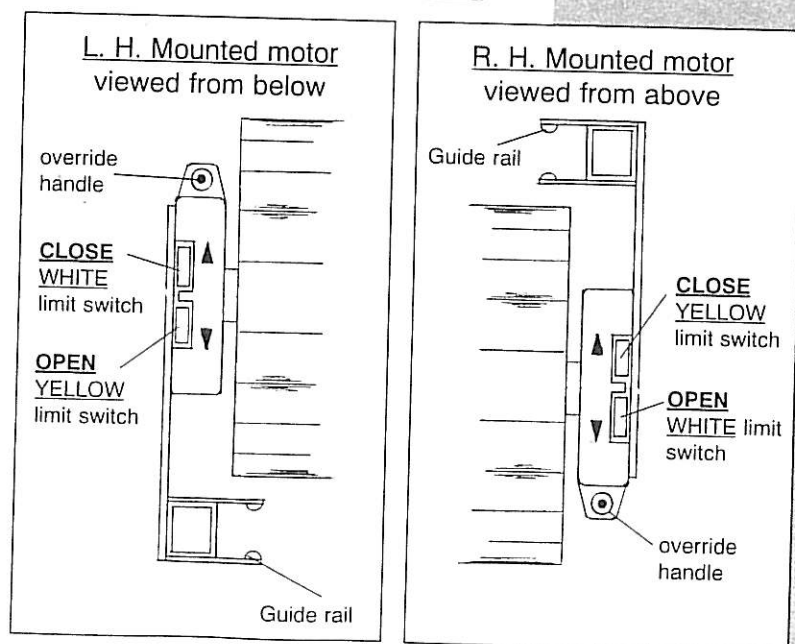

Fig 25
- 9.1.2 Remove the protective cap from the head of the motor. (see Fig 25)
- 9.1.3 Fully depress both limit switch buttons. (see Fig 25). They will automatically lock in the down position.
- 9.1.5 Identify the OPEN limit switch button on the motor (see Fig 25 for RH or LH mounted motor).
- 9.2.2 Identify the CLOSE limit switch on the motor (see Fig 25).